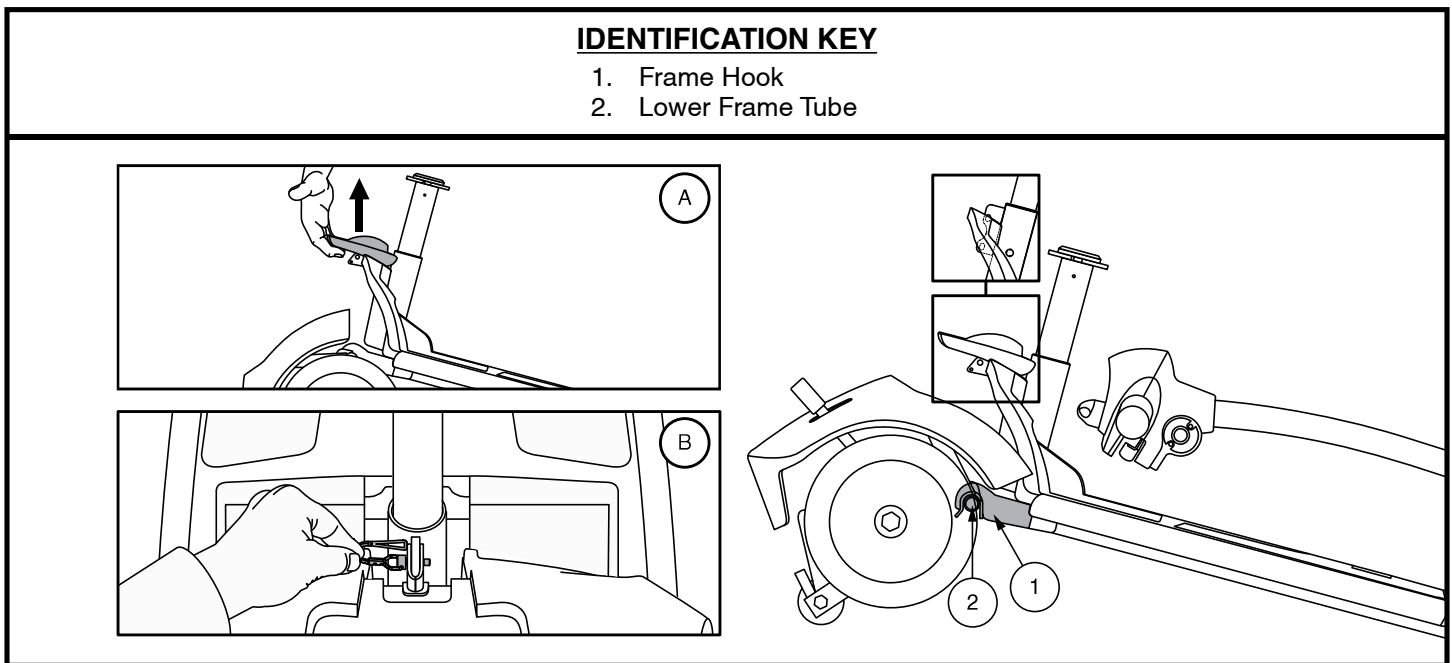

Figure 33. Frame Release Lever (Style A) and Frame Release Lock-up Pin (Style B)
4. Slowly separate the two sections of the Travel Scooter. See **figure 33**.
NOTE: Before attempting assembly, tilt the rear half of the Travel Scooter slightly back on the anti-tip wheels as shown in figure 33.
1. Use the frame release lever (or the seat post for models 36, 336, 83, and 84 only) to lift the front section as you align the frame hooks of the front section with the lower frame tube of the rear section. See **figure 33**.
2. Once the frame hooks are over the lower frame tube, lower the front section and pivot the rear section simultaneously. This will engage the frame lock-up automatically for models 39, 40, 44, 40LX, 40X, 44X, 40E, 44E, 44LX, 49, 50LX, 50LXLIT, 54LX, 54LXLIT, 53, 53HD, 54, 54HD, 66, 67, 73, 74, and Jazzy ZTS. For models 36, 336, 83, and 84, you will also need to reinstall the frame lockup pin to complete the body assembly. See **figure 33**.